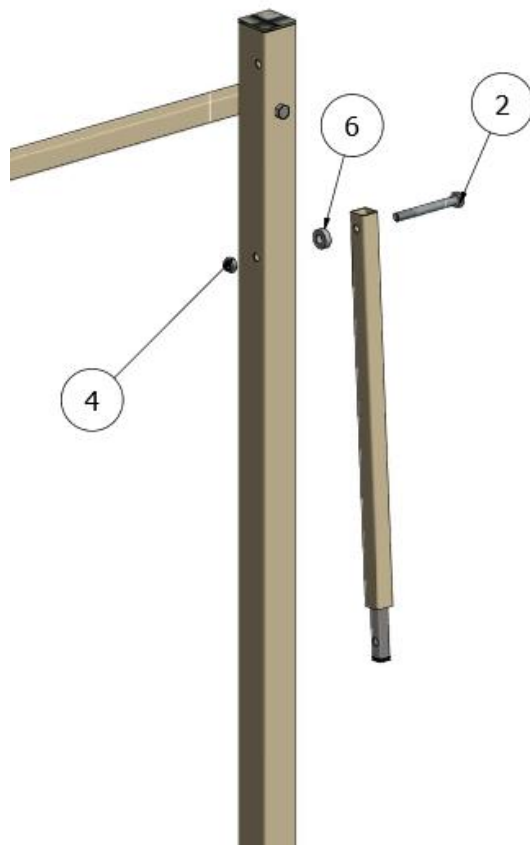

Figure 3 – Bolt Stay Assembly onto Leg
- Bolt the Stay assembly to the OUTSIDE OF THE LEG (see Figure 3) using Bolt (2), Lock Nut (4), Nylon Spacer (6) with the "Oil" label facing the front